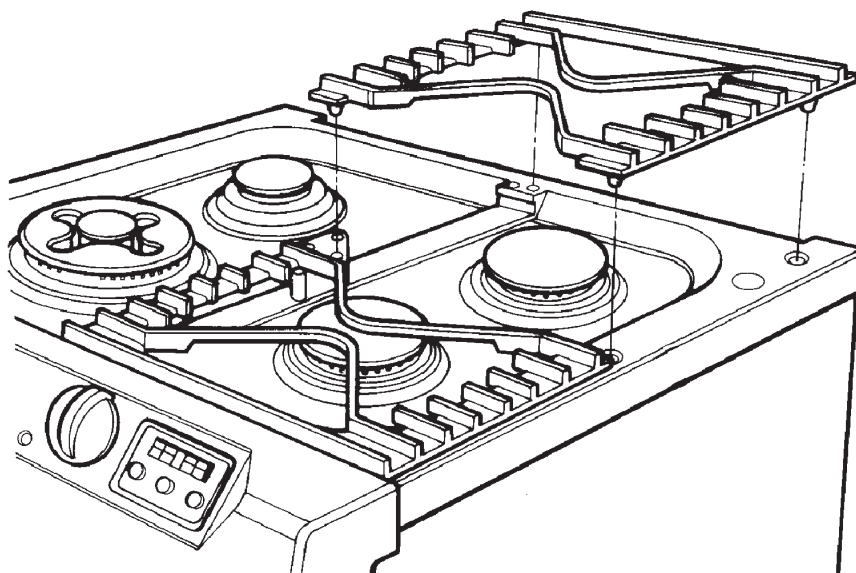

Fig. 20
2. Remove pan supports and burner caps. (See Fig. 20)
3. Remove burner fixing screws (10) and hotplate fixing nuts (4).
4. Lift off burner fixing rings (4).